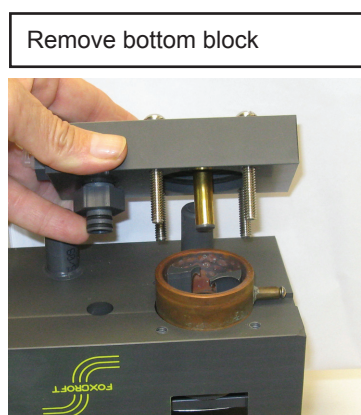
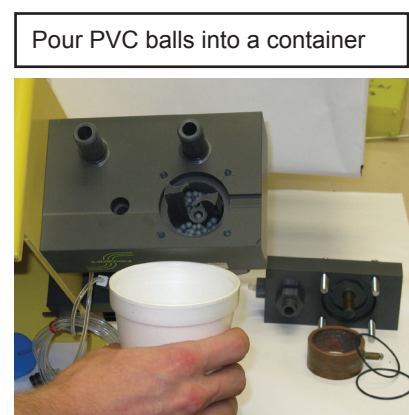

Figure 52
Figure 53
- 4b. Carefully pull the bottom block, together with the copper electrode ring, down from the top block (**Figure 52**). This should help prevent losing any of the 150 small PVC mixing balls contained within the copper ring electrode. Pour the PVC balls into a container (**Figure 53**). Proceed to step 11.
5. Remove the (4) mounting screws that hold the analyzer to the wall.
7. Remove the (4) 1/4"-20 slotted screws that fasten the lower block to the upper block.